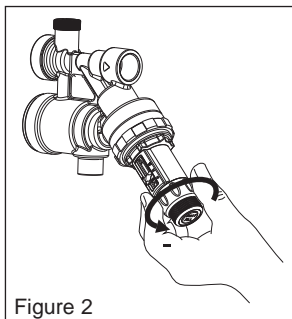

Figure 2
3. To increase the system pressure, turn the adjusting knob clockwise (see figure 2).